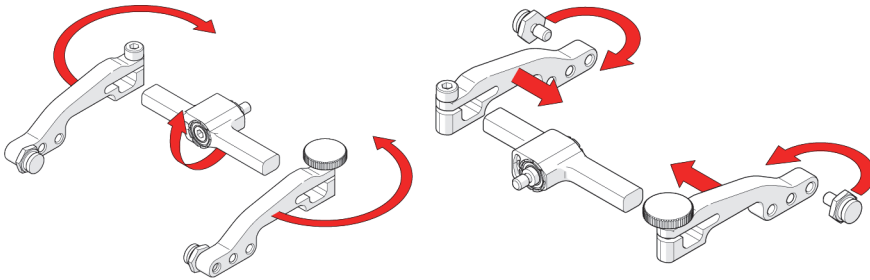

Figure 2-40 Flip yoke, reverse arms, move buttons inside
3. Flip the yoke 180°, and reverse the probe holder arms (see Figure 2-40 on page 64).
4. Place the pivot buttons on the inside of the probe holder arms using a 3/8 inch wrench (see Figure 2-40 on page 64 and see Figure 1-19 on page 34).